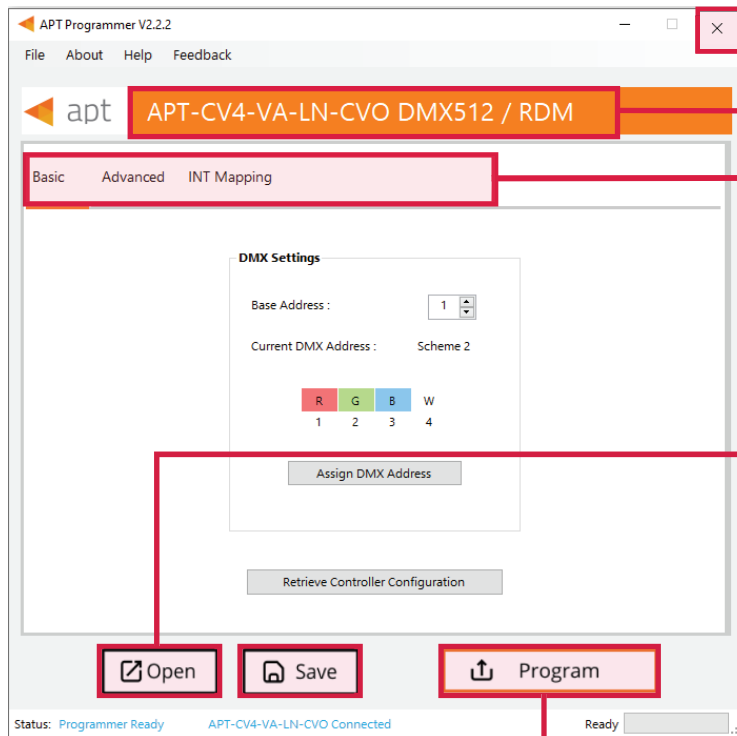

Figure 3: Programmer Interface window
- 3 Click **Connect Controller** to establish a connection. Once connected, the APT Programmer Interface window (shown in Figure 3) will open.